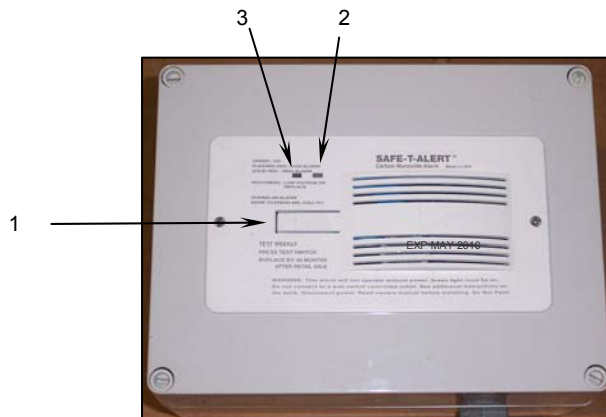

Figure 26. CO Monitor Test.
- a. Test the unit by pressing the TEST/RESET button (**Figure 26, Item 1**). The indicator light (**Figure 26, Item 2**) should change from green to red (**Figure 26, Item 3**) and the alarm horn (**Figure 26, Item 3**) should sound.